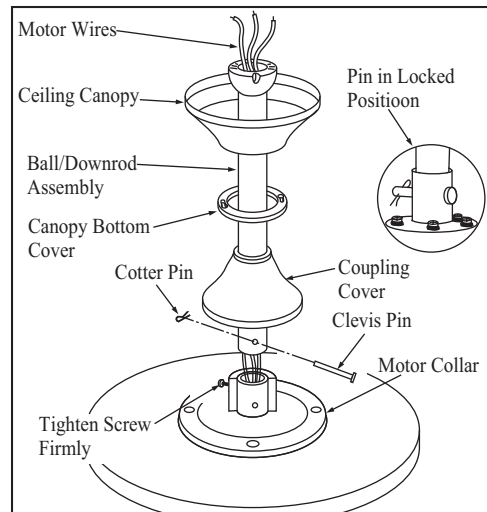

Figure 6
3. Remove the clevis pin, cotter pin and set screws from the top of the motor assembly. (Figure 6)
4. Route wires exiting from the top of the fan motor through the coupling cover, canopy cover, canopy and then through the ball/downrod. (Figure 6)
5. Align the holes at the bottom of the downrod with the holes in the coupling on top of the motor housing (Figure 6). Carefully insert the clevis pin through the holes in the collar and downrod. Be careful not to jam the clevis pin against the wiring inside the downrod. Insert the cotter pin through the hole near the end of the clevis pin until it snaps into its locked position, as noted in the circle inset of Fig. 6.
6. Tighten two set screws at top of the fan motor collar firmly and evenly. (Fig. 6)